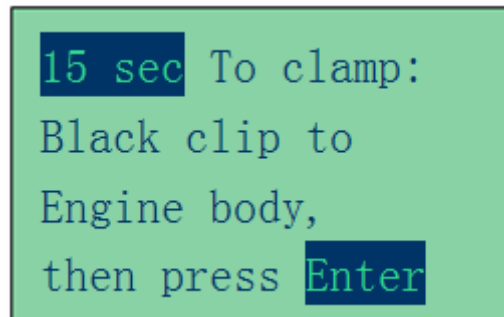

Figure 27
7. Once it has finished analysed, it will prompt you with an instruction (Fig. 27) stating that you have should unclamp the black battery clip from the battery negative terminal and clamp it to the engine body within 15 seconds.